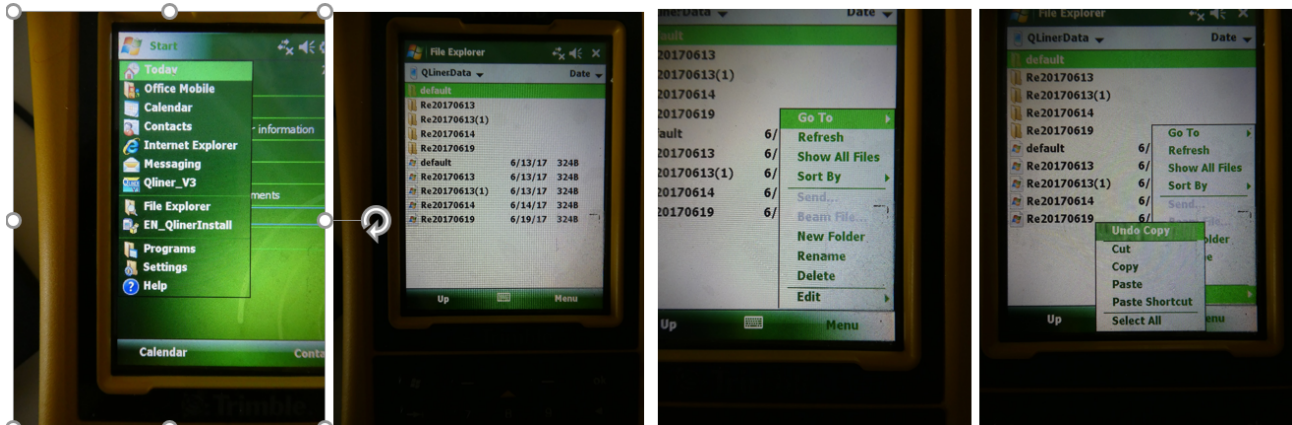

Figure 6.13 How to transfer data from the PDA to the computer
*Figure 6.13 Discharge measurement carried out from the western side of the river crossing. The Q-liner boat is attached to the rope and can be pulled from one side of the river to the other. Measurements are carried out for each half meter.*